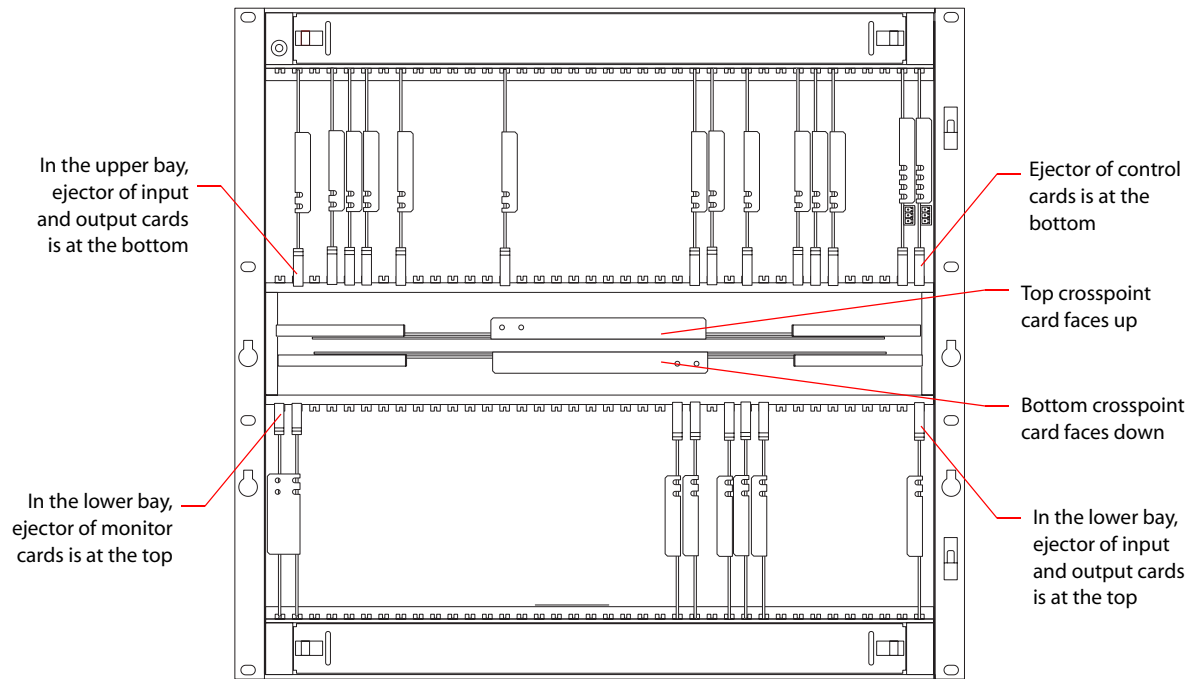

Figure 3-8. How Cards are Inserted in Router Frame
- 2 Insert the cards into the frame by sliding them into card guides from the front of the router. Insert the card in designated card guides only, as follows. (See Figure 3-8.)